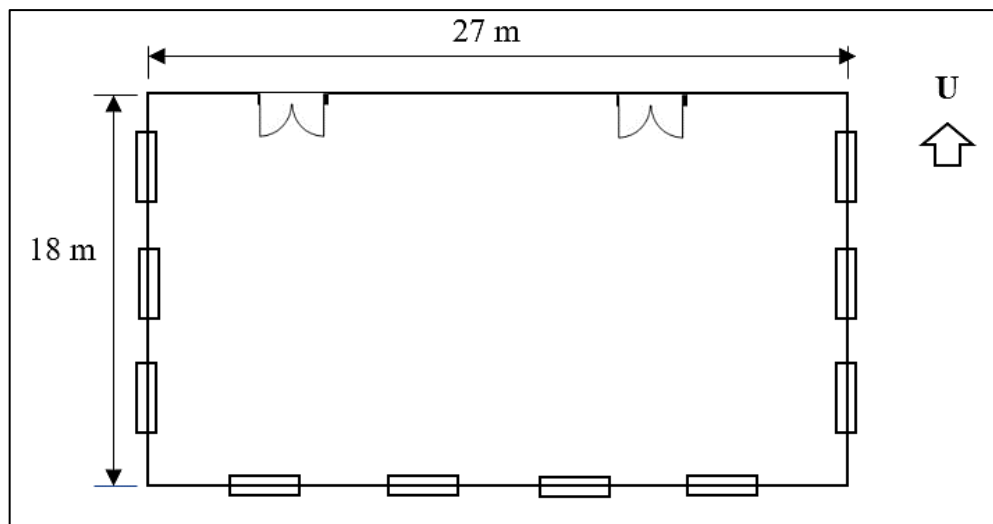

Figure B1(b) / *Rajah B1(b)*
- CLO1 (b) Figure B1(b) shows the plan of the laboratory room 27 m x 18 m x 4 m height where air conditioning is to be installed. By using the data below, calculate the total heat gain through walls.